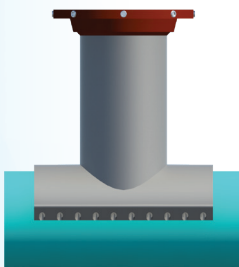

Figure 3
7) Using lift support, position the valve body onto the pipe in the position it is to be installed in so that adjusting of the valve's position is not necessary (see Figure 3). A level should be used to check the orientation of the valve body flange during positioning. If repositioning is necessary lift the valve body off the pipe and retry. Do not rotate the valve body once it is on the pipe as this can cause damage to the gasket.